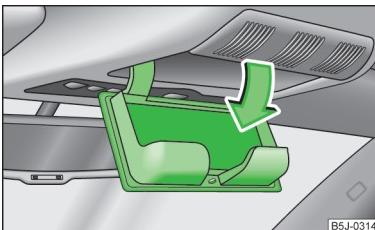

Fig. 87
- Press on the bar in the cover of the glasses storage. The compartment folds down » Fig. 87.